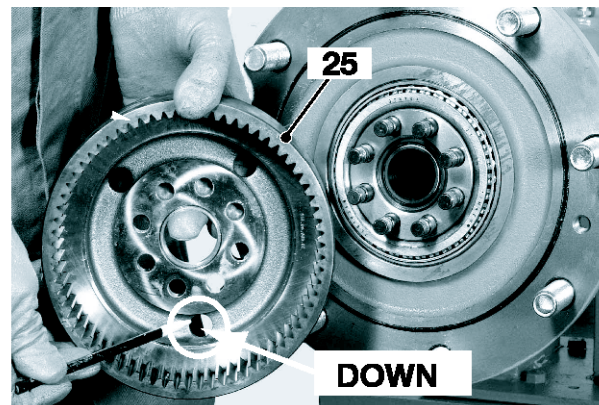
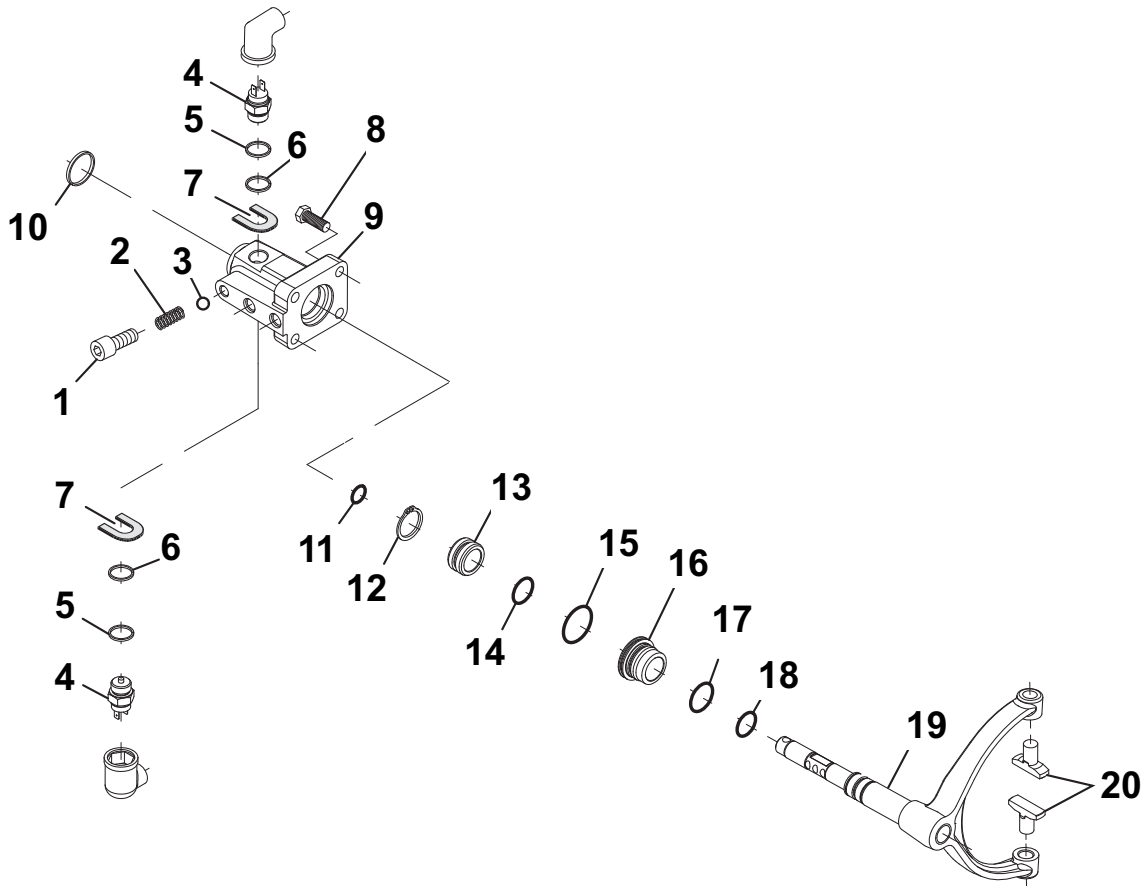

Fig 15.
Fig 16.
- 9 Install the annulus-ring **25** onto the studs on the axle. Make sure that one of the large drain holes is facing directly downwards. ⇒ Fig 15. \(□ F-10\) and ⇒ Fig 16. \(□ F-11\).
1 Remove gear selected indicator switch 4, 'O' ring 5 and washer 7. → Fig 16. (□ F-70)